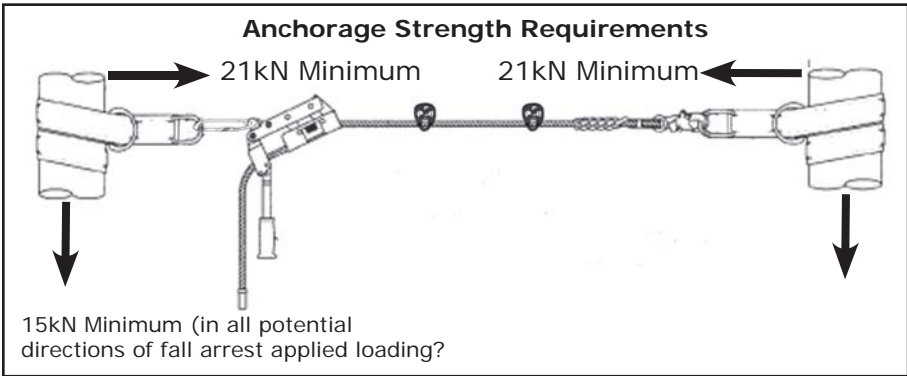

Figure 3
2.4 STRUCTURE LOAD: Structural anchorage points must be rigid, and capable of supporting at least 21kN along the axis of the horizontal lifeline. Anchorages must also support at least 15kN applied in all potential directions of fall arrest that are perpendicular to the axis of the horizontal lifeline. See Figure 3.